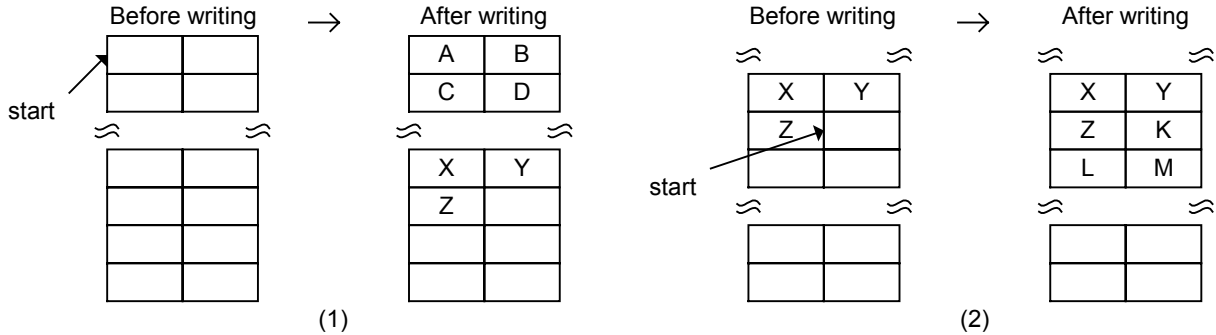

Figure 1-83 FIFO writing processing (normal operation)
When setting the AREAnFIFO_Clr.ClrAREAx{x=0-5} or MediaFIFO_Control.MediaFIFO_Clr bit (for media data transfer) and word writing from a state without byte boundaries and with odd data quantities, write the last byte (data Z) of the continuous data to the High side only. This situation is illustrated in Figure 1-83 (1). Data is output from the USB in the sequence A, B, C, D ... X, Y, Z.
When writing from a state in which byte boundaries exist in the FIFO, first write the data to the Low side (write data K) to clear the byte boundaries before word writing (data L and M). This situation is illustrated in Figure 1-83 (2).